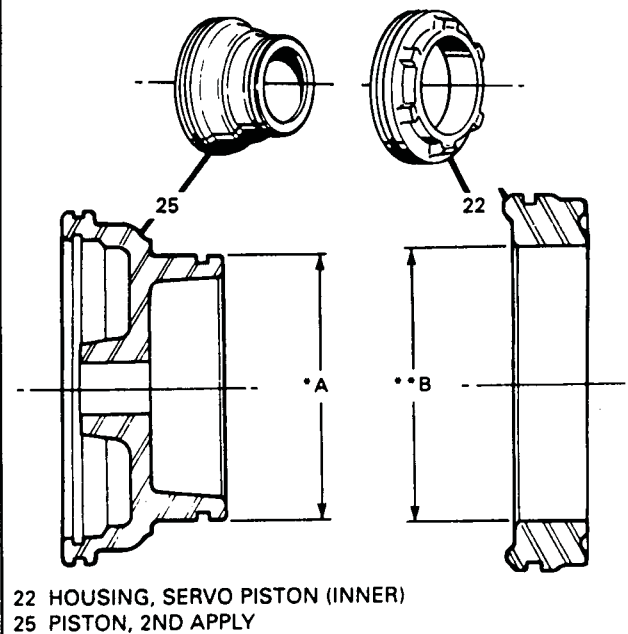

Figure 206
1. Check the dimensions of the 2nd apply piston and housing, as shown Figure 206, to ensure compatible parts and proper build content.